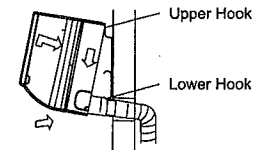
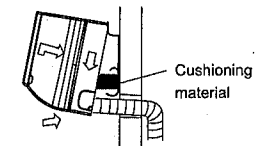

Fig. 10
Fig. 11
2. Put the upper claw at the back of the indoor unit on the upper hook of the installation plate, move the indoor unit from side to side to see that it is securely hooked (see Fig. 10 & Fig. 11).